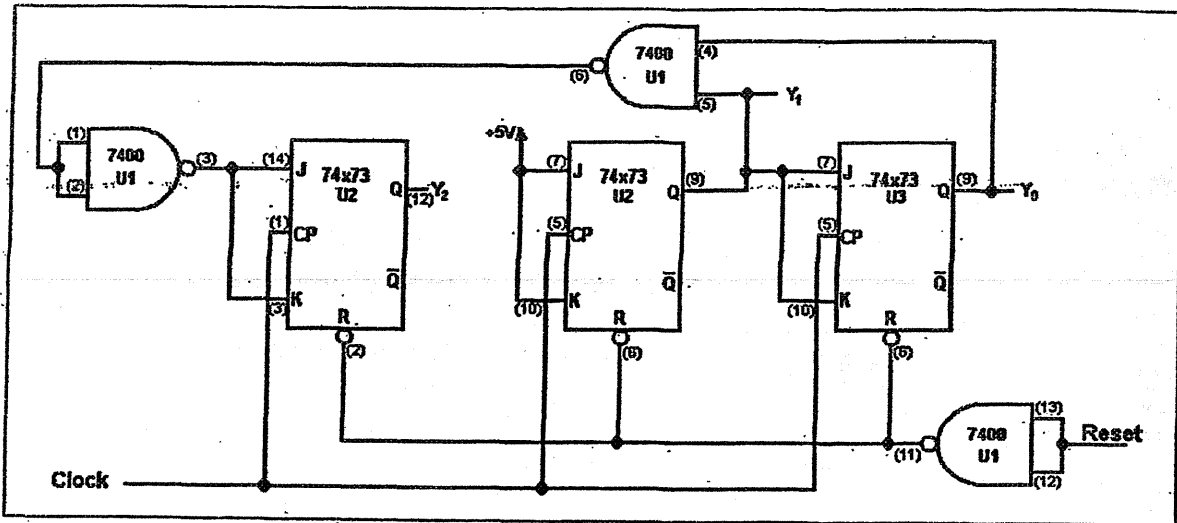

Figure 5.1
- 2) Analyze the sequential counter circuit shown in Figure 5.1. Derive the state transition table and diagram.
Connect the counter circuit shown in Figure 5.1. Verify its functionality by testing all possible counter values. Record the results in a state transition table.